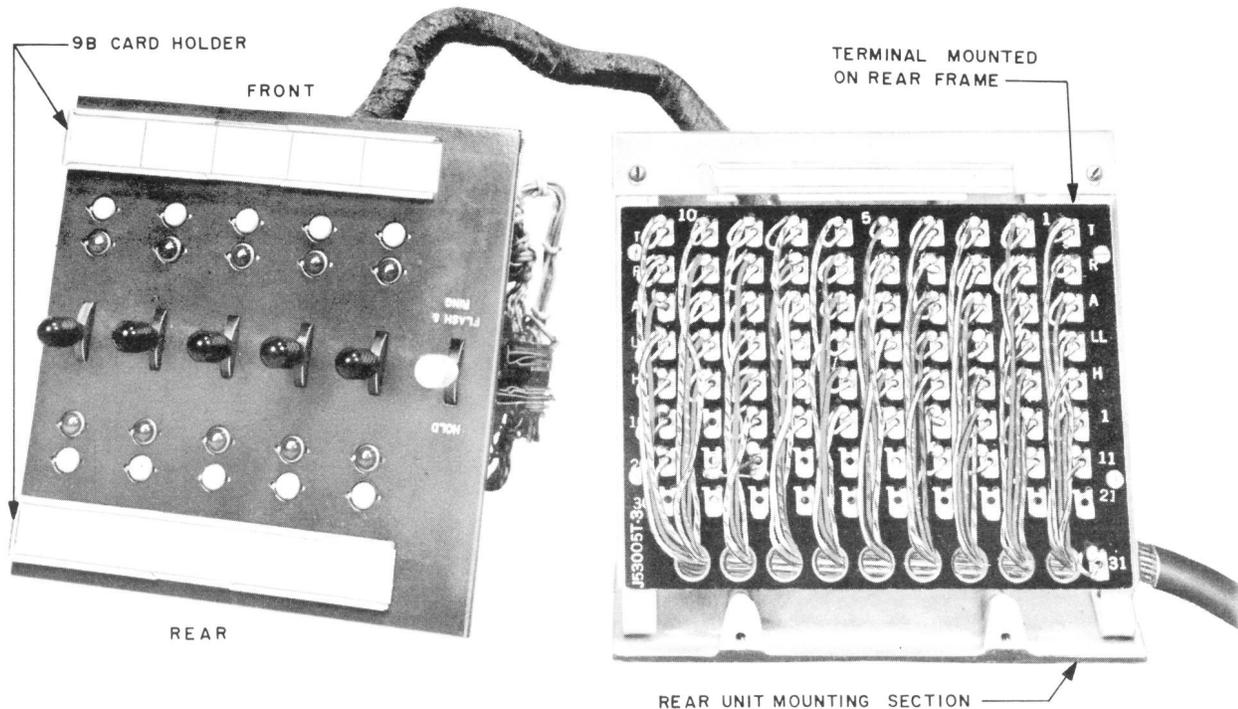

Fig. 11 – Terminal Mounted on Rear of 700A Apparatus Case
3. Fasten terminal to rear of 700A apparatus case (Fig. 11).
strip as shown in Fig. 11. If required, tie cable to terminal mounting plate near cable entrance.
8. Fasten terminal to rear framework of 700A apparatus case (Fig. 11).